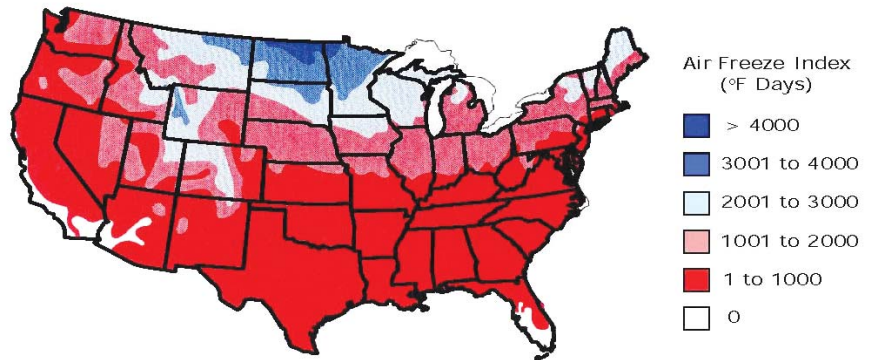

Figure 4. Air freezing index (AFI) values for a 100-year mean return period.
the same winter. Figure 4 contains a map of the AFI100 values for the contiguous United States. AFI100 values are AFI values with a mean reoccurrence interval of 100 years. In Alaska, AFI100 values range from a low of 1,000 °F•days to a high of 12,000 °F•days!
(b) Air freezing index for 100-year mean return period. See Figure 4 for values by location.
Step 1: Determine the site’s design AFI. Approximate the AFI from Figure 4 or obtain a more site-specific value from the National Climatic Data Center FPSF website (<https://www.ncdc.noaa.gov/climate-information/statistical-weather-and-climate-information/frost-protected-shallow-foundations>).